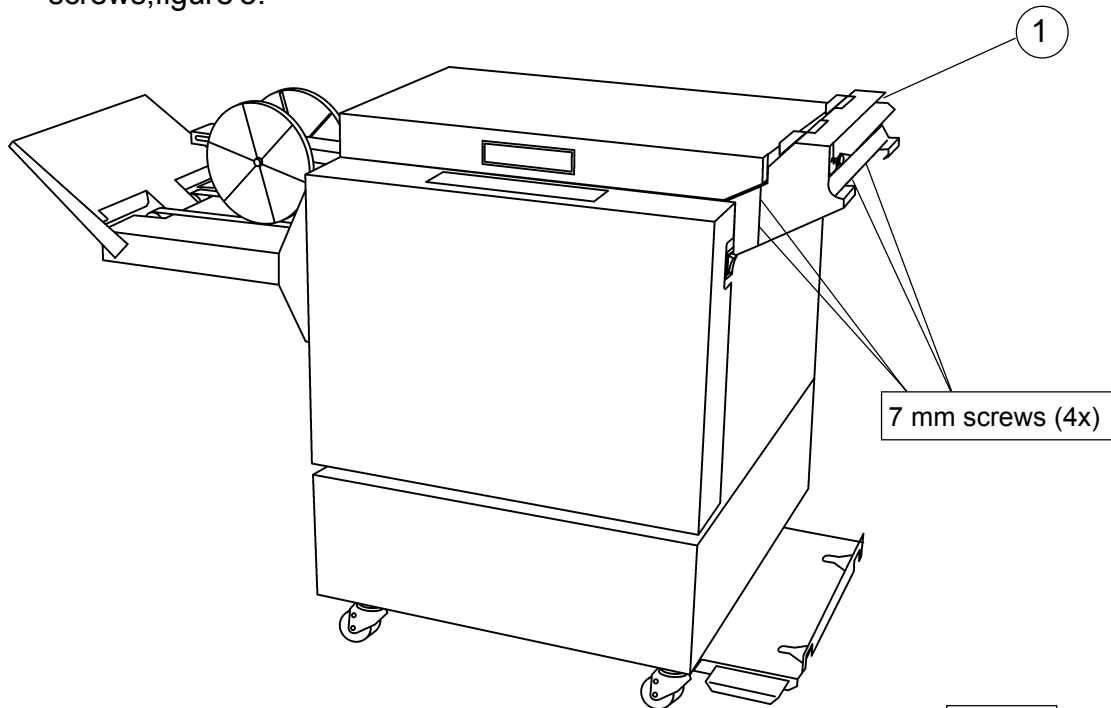

Figure 5
1. Take the infeeder assembly (1) and install it on the Bookletmaker with four 7mm screws, figure 5.